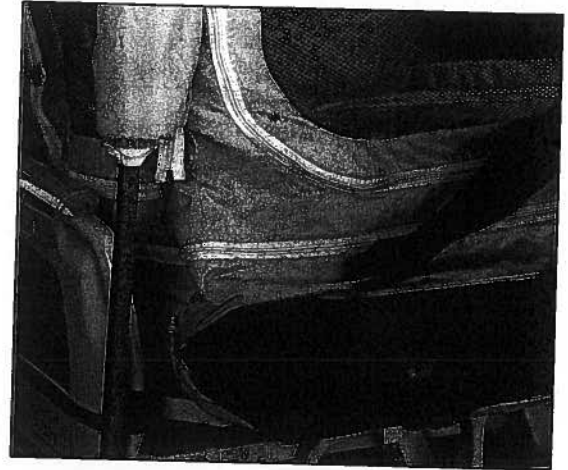

fig. 27
- b. Place mattress inside mattress compartment (fig. 27).